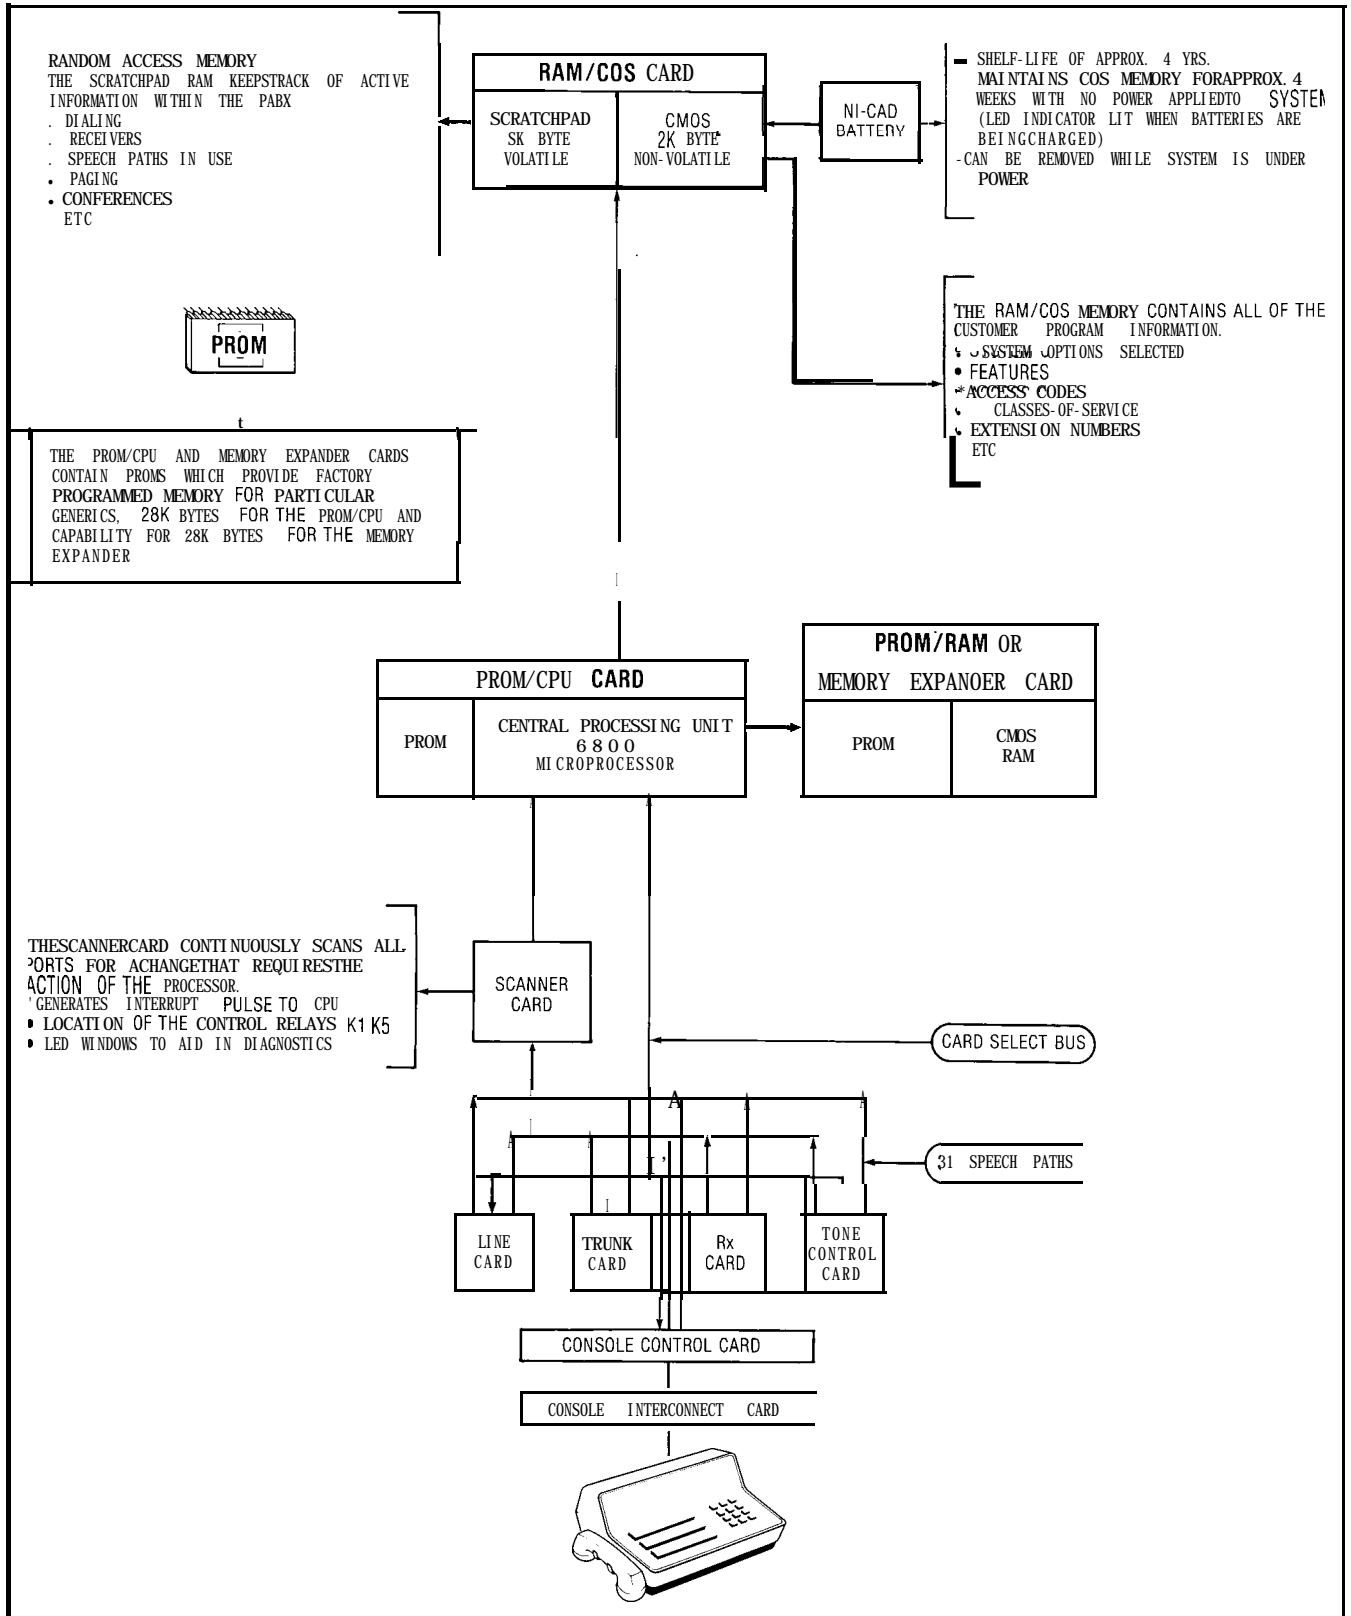

Fig. 4-3 Data Flow Interconnections
4.08 Fig. 4-3 illustrates the basic interconnections of the foregoing cards to provide the desired facilities. Reference should be made to Part 7 for circuit descriptions.